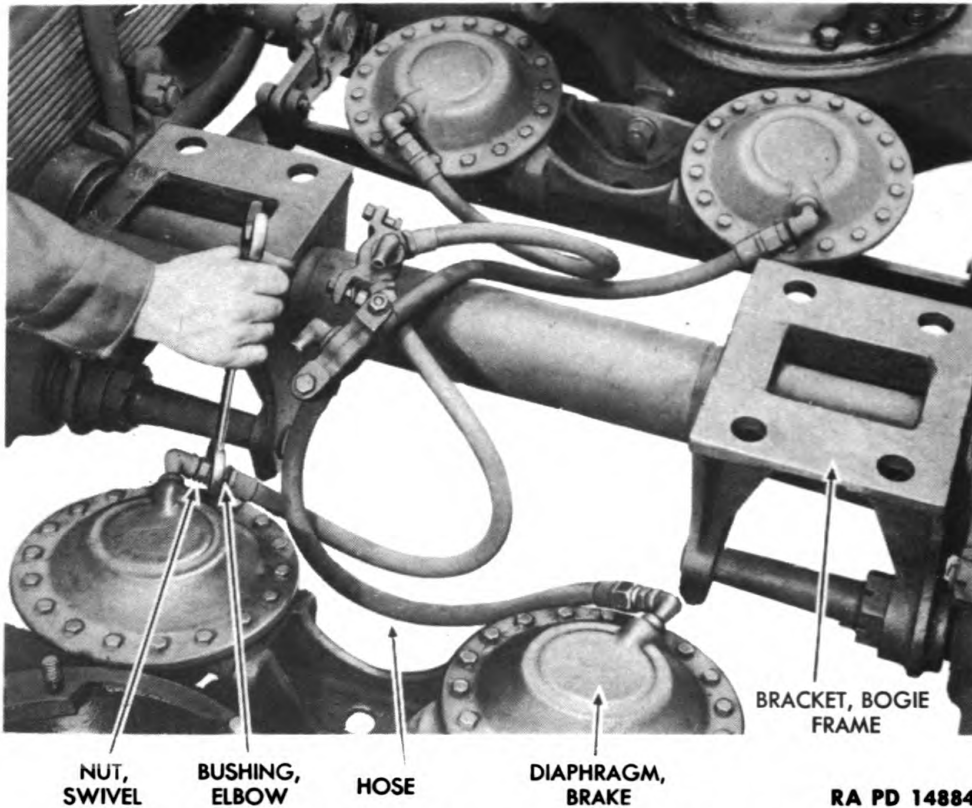

Figure 11—Brake Air Diaphragm Hose Assembly
(7) REMOVE BRAKE DIAPHRAGM ASSEMBLIES (fig. 11).
(c) Disconnect air hose at brake diaphragm assembly (3/4-in. and 7/8-in. open-end wrenches) (fig. 11).